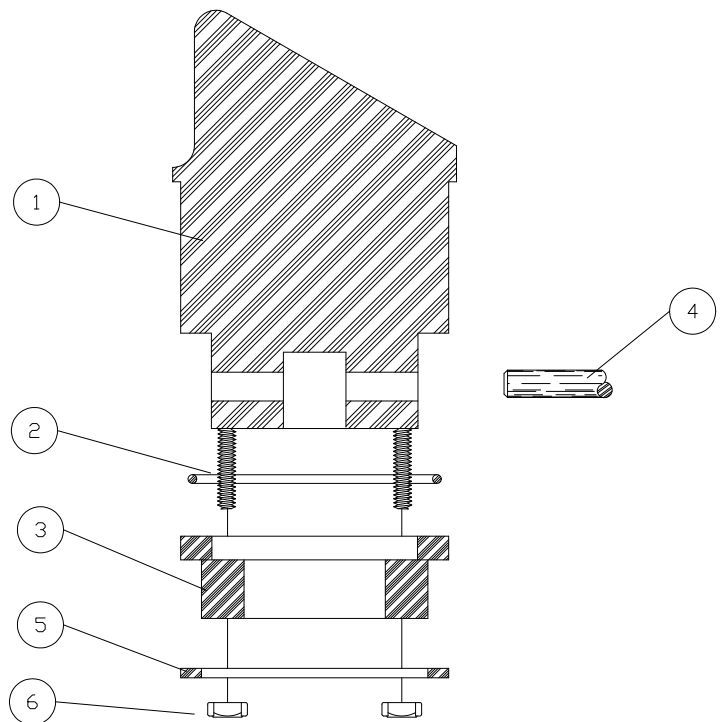

FIGURE 4
TO DISMANTLE PISTON IN FIGURE 4, REMOVE THE SIX HEX NUTS (6), SLIP RING (5) DOWN AND OFF, THEN WITH SLIGHT PRESSURE, PUSH PISTON RING (3) OFF PISTON, REMOVE WRIST PIN (4) AND RUBBER "O" RING (2). WHEN REASSEMBLING THE PISTON, A VERY **IMPORTANT** STEP IS TO MAKE SURE THE SIX NUTS (6) ARE NOT OVERLY TIGHTENED, MERELY SNUG. AS THE RING WEARS OVER A PERIOD OF TIME, CONTINUE TO SNUG UP THE SIX NUTS. THIS PROCEDURE WILL NOT ONLY PROVIDE LONG LIFE TO THE PISTON RING BUT WILL MAINTAIN FULL VACUUM.